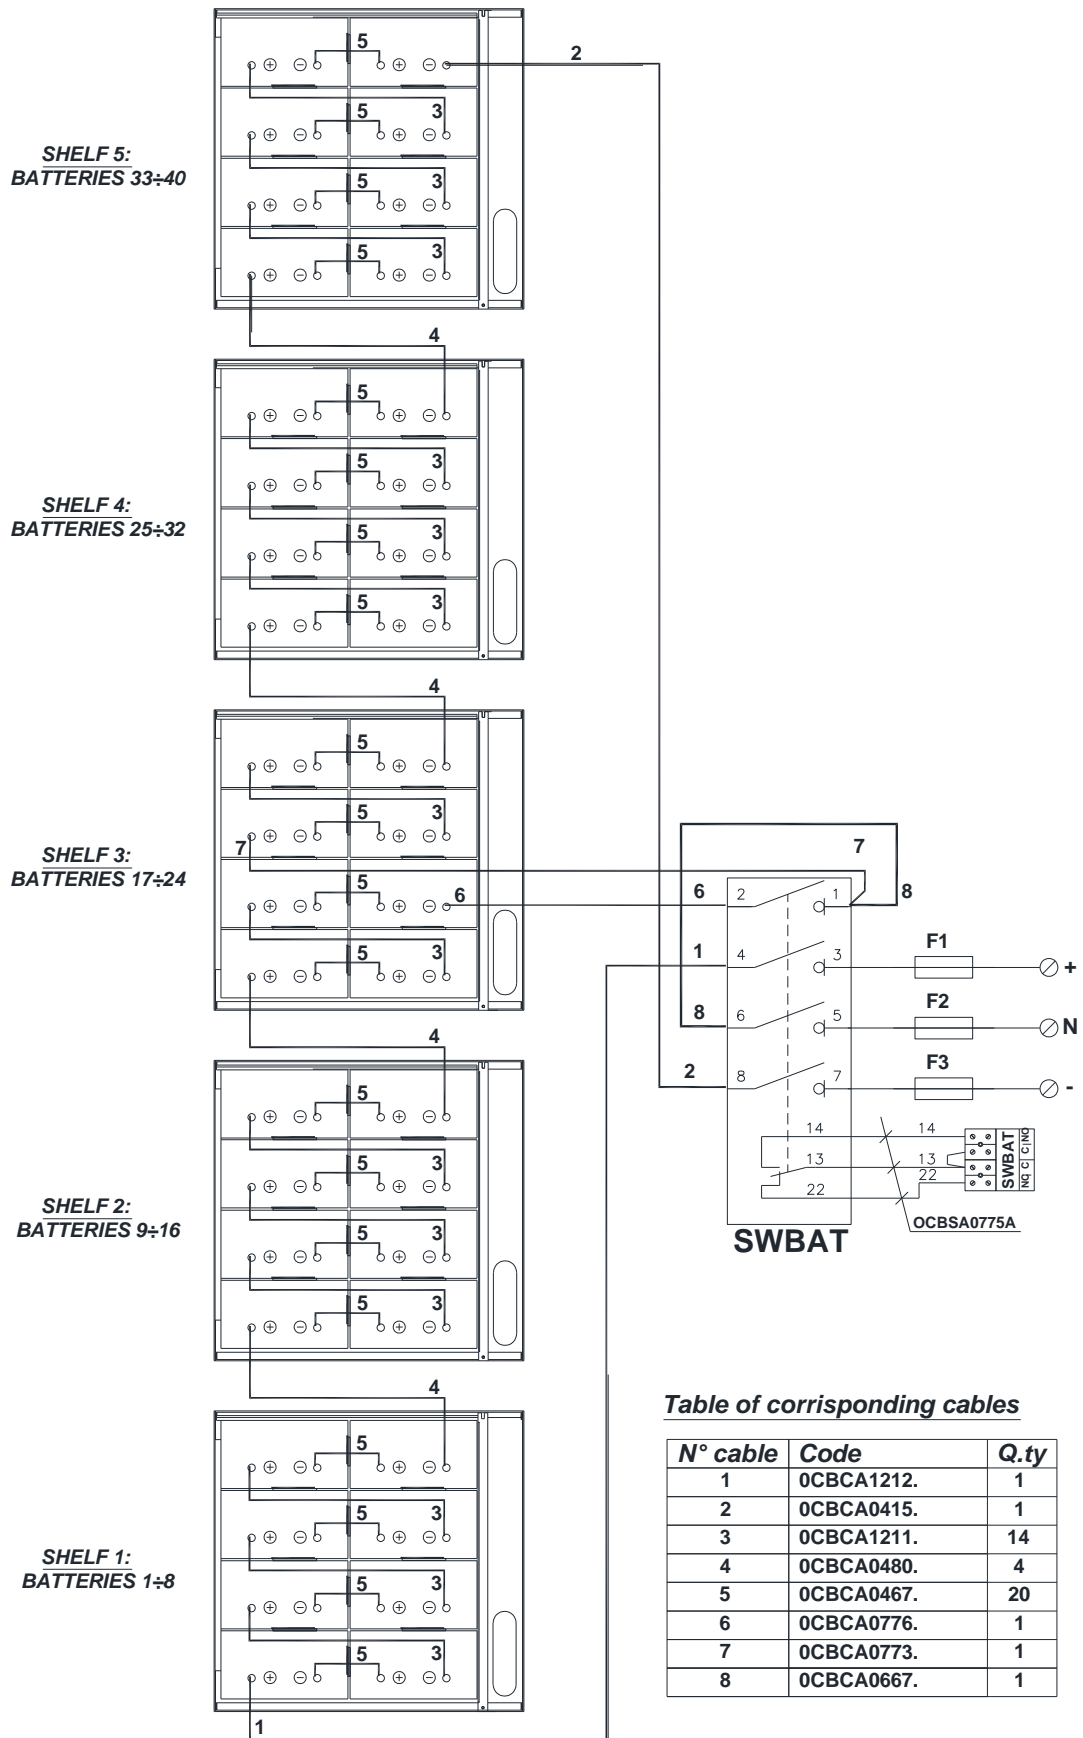

Fig. 3.
- Connect the batteries and switch with the supplied cables as per Fig. 3, relative to the two types of connection: